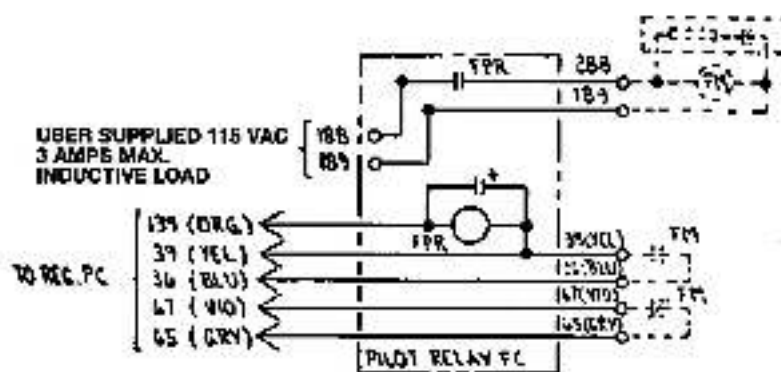

Figure 2A – M-Contactor Adapter Kit Wiring Diagram Forward Only Application
3. Wire the optional user-supplied M contactor (and optional user-supplied reversing contactor) to the kit terminal strip according to Figure 2A or 2B. Also, refer to Figures 5.8, 5.9, 5.11 and 5.12 of D-3938 for additional wiring diagram information.